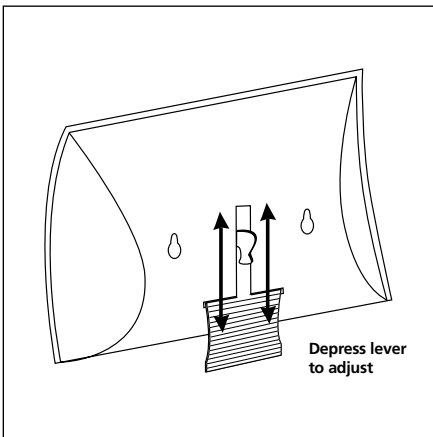

Figure 8
Your AMR130 Satellites come with snap-on wall mounting brackets for the two rear surround satellite speakers. The bracket snaps directly on to the speaker as shown in [figure 8]. Use the bracket itself as the location template for wall mounting the Satellite speaker. The Center Channel Speaker has built-in keyhole brackets, and a template is included for locating your installation. On-wall installation of AMR speakers requires basic skills and basic tools (drill and screwdriver). If you are in doubt that you possess the necessary skills or tools, consult your Polk dealer or a professional installer. Otherwise, follow the steps below to safely secure the speakers to the location of your choice.
- Snap the bracket onto the back of the speaker as shown in [figure 8]. Line up the keyhole slots on the bracket so that the screw heads pass through the large center hole of the slots.